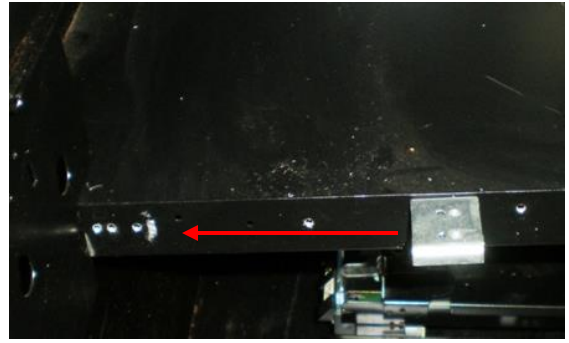

Figure 3B
8. If the factory rail used the factory locking plate to hold it in place, then you must move it to its new location on the left side of the machine (Figure 3B).